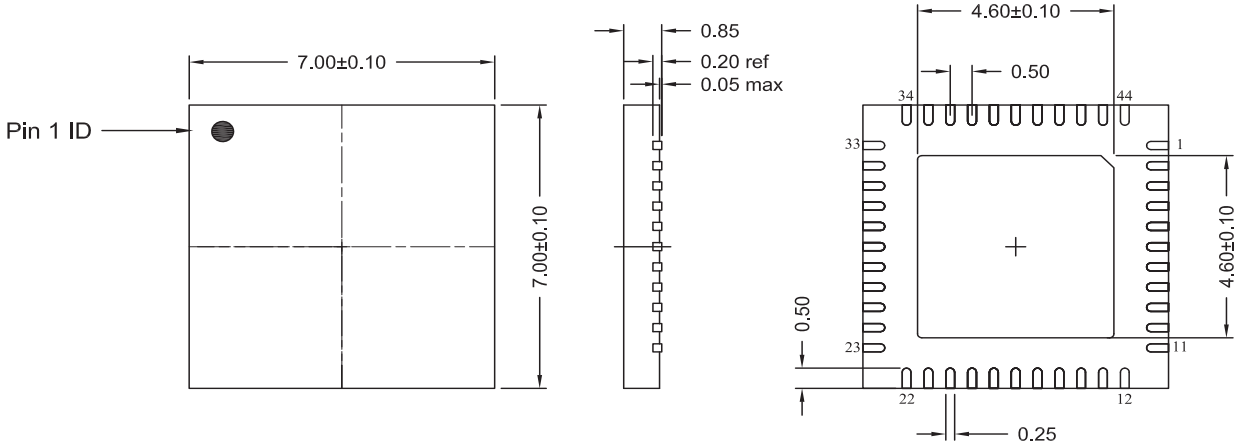

Figure 101. 44-Pin QFN Package Dimension
► **Note:** In Figure 101, dimensions shown are in millimeters.